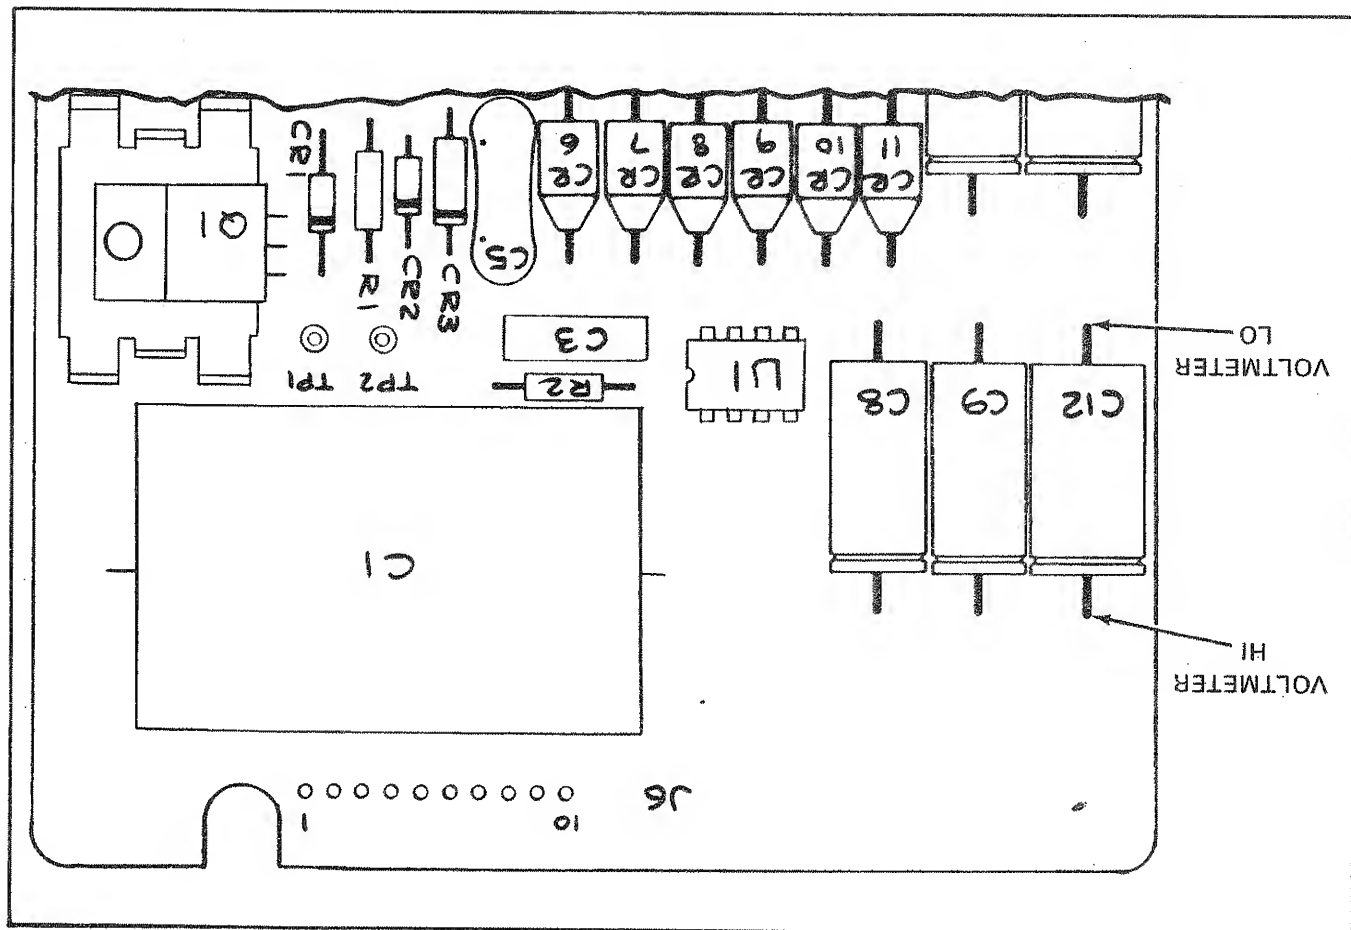

Figure 4-1. TEST EQUIPMENT CONNECTION FOR POWER SUPPLY ADJUSTMENT
- a. Connect the positive input lead of the voltmeter to the junction point of C12, CR10, and CR11 (on the Power Supply PCB) and the negative input lead to the logic common side of C12 (See Figure 4-1).
- c. Check the voltage between TP1 (HI) and TP2 (LO); it should be 10.5V ± 0.1 V.